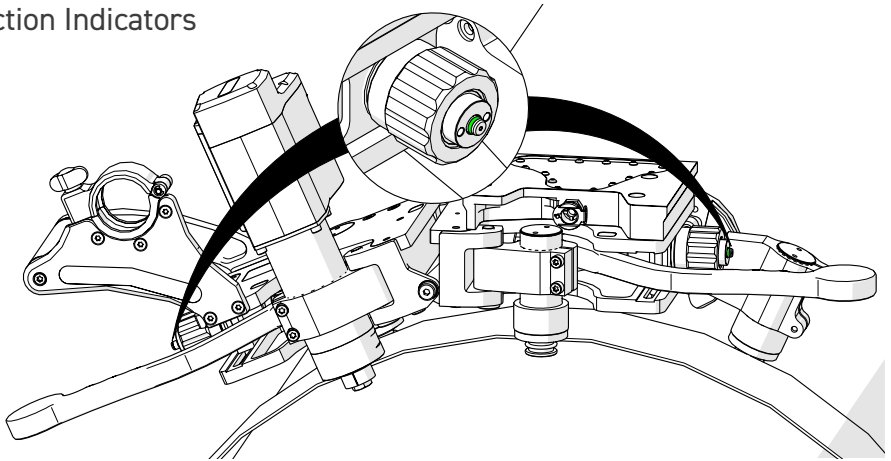

Fig. 54 - Check the traction indicators when mounting carriage to a band
1. Check the visibility of the green indicator on the traction indicator when the clamp levers are engaged. (Fig. 54).